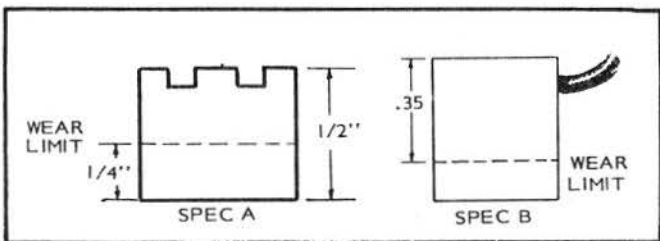

FIGURE 20. BRUSH WEAR LIMIT
6. Brush Inspection: If brushes are worn shorter than 1/4 inch, replace them. Check to see that brushes move smoothly in the brush holders. See Figure 20.